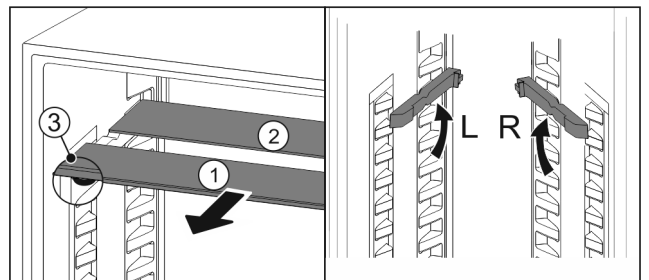

Fig. 35
- ▶ Pull the glass panels out Fig. 35 (1) from the front, one at a time.
- ▷ The glass panel Fig. 35 (1) with the trim strip is at the front.
- ▷ The stops Fig. 35 (3) point downward.